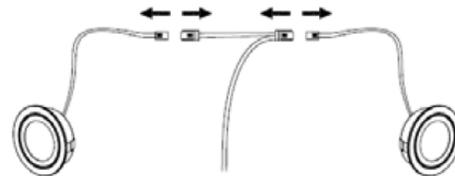

Fig. 9.2
- Disconnect the connector as illustrated in (Fig. 9.2).